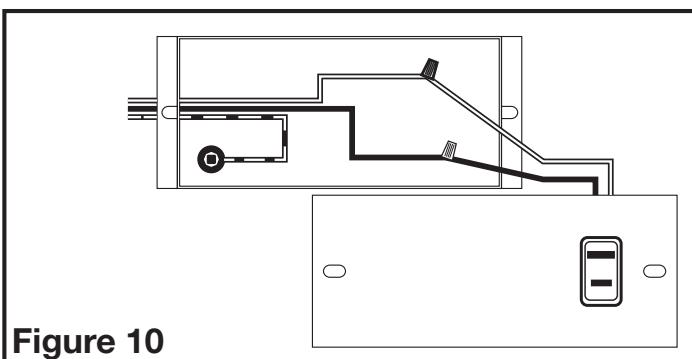

Figure 10
- Connect the green or bare ground wire from the house to the ground screw in the wire compartment. Connect the white wire from the house to the white wire from the receptacle. Connect the hot (black) wire from the wall switch to the black wire from the receptacle (Figure 10). Use approved methods for all connections.